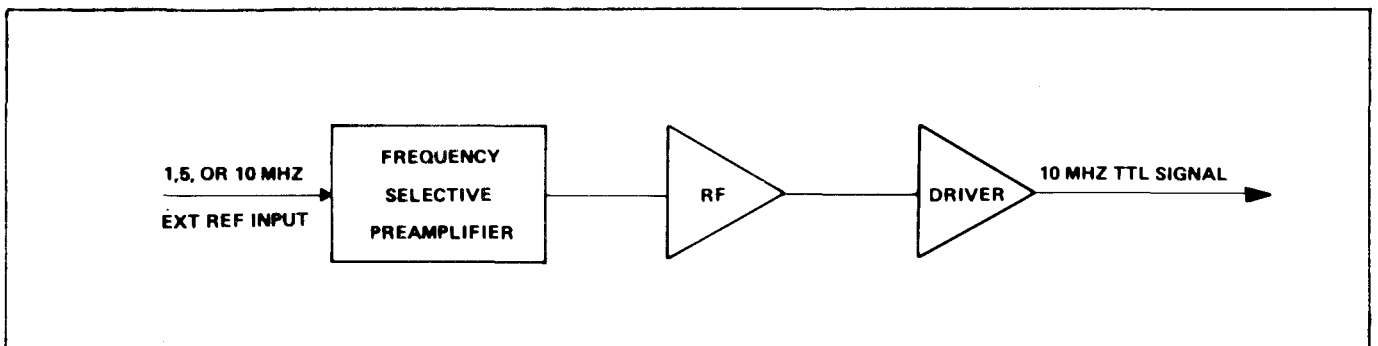

Figure 1.41 - Reference Multiplier Simplified Diagram
1.4.23.1 The reference multiplier board accepts a 1, 5, or 10 MHz external reference signal, filters out its 10 MHz component, amplifies it to TTL logic levels, and supplies it to the EXT REF line. See figure 1.41. Frequencies other than 1, 5, or 10 MHz are locked out. The external signal is ac coupled, and buffered in the preamplifier and used to excite a high Q resonant circuit. The resonant circuit is comprised of a 10 MHz crystal that can be shifted slightly by the external reference signal ( $\pm 10$  ppm). The 10 MHz oscillator signal is buffered and amplified in the RF amplifier circuit. The output driver circuit amplifies the signal to TTL logic levels.